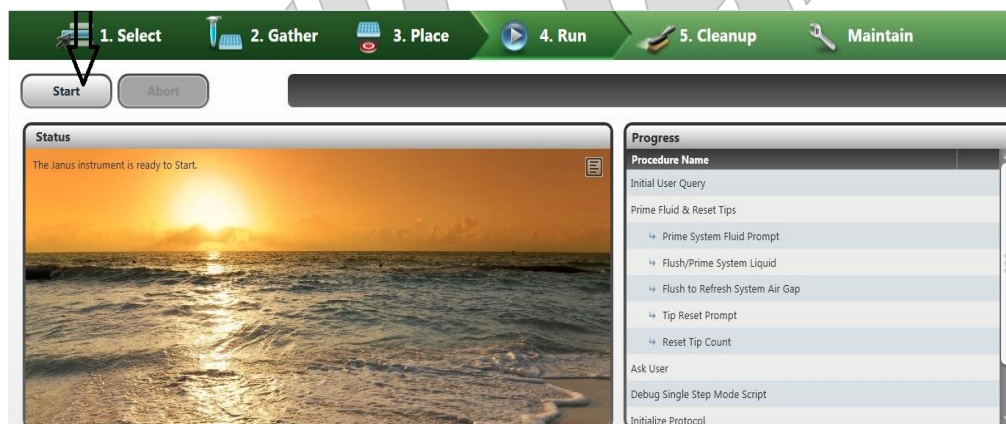

Figure 17: The protocol initiation
4.10. Click on the run button. Another window appears on the screen. Click on the start icon to begin the protocol as shown in Figure 17.